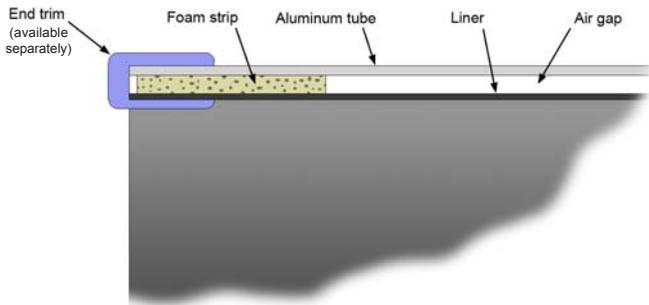

Figure 2: Cross section of typical tube end detail showing placement of foam strip and end trim.
- 4) Insert the liner into the tube again. Cut the supplied foam sheets into 1" to 2" wide strips. Tuck the foam sheets into each end between the liner and tube wall (see **Figure 2**) using a butterknife or small screwdriver. No adhesive or tape is necessary to hold the liner in place.